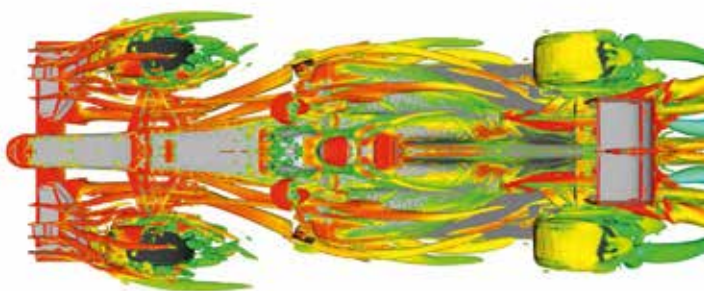

Figure 6: 'Lambda-2 iso-surface' plot shows the mass of vortices generated from the top
**Figures 6 and 7** are 'lambda 2 iso-surface' plots coloured by total